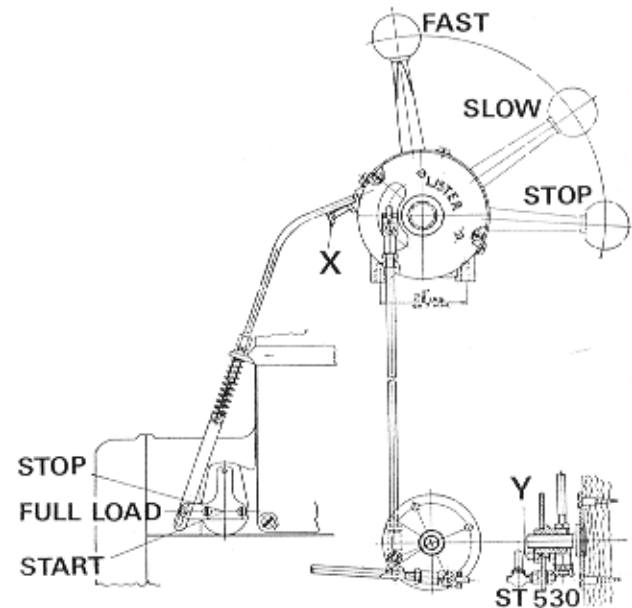

Fig. 113. Single Lever Speed and Stop Control
**MARINE PROPULSION ENGINES****Single Lever Speed and Stop Control Adjustment (Fig. 113)**